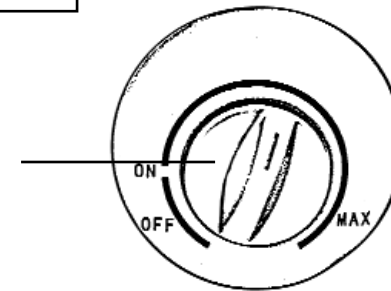

Fig.4
4. To turn the unit On, turn the Control Switch clockwise from Off to On, then the indicating light will illuminate. To turn the unit off, turn the Control Switch counter-clockwise to the Off position and the indicating light will shut-off (fig. 4).
5. The mist volume can be adjusted by turning the Control Switch clockwise from Min. to Max (fig. 4). Misting will not take immediate effect until the reservoir is filled.